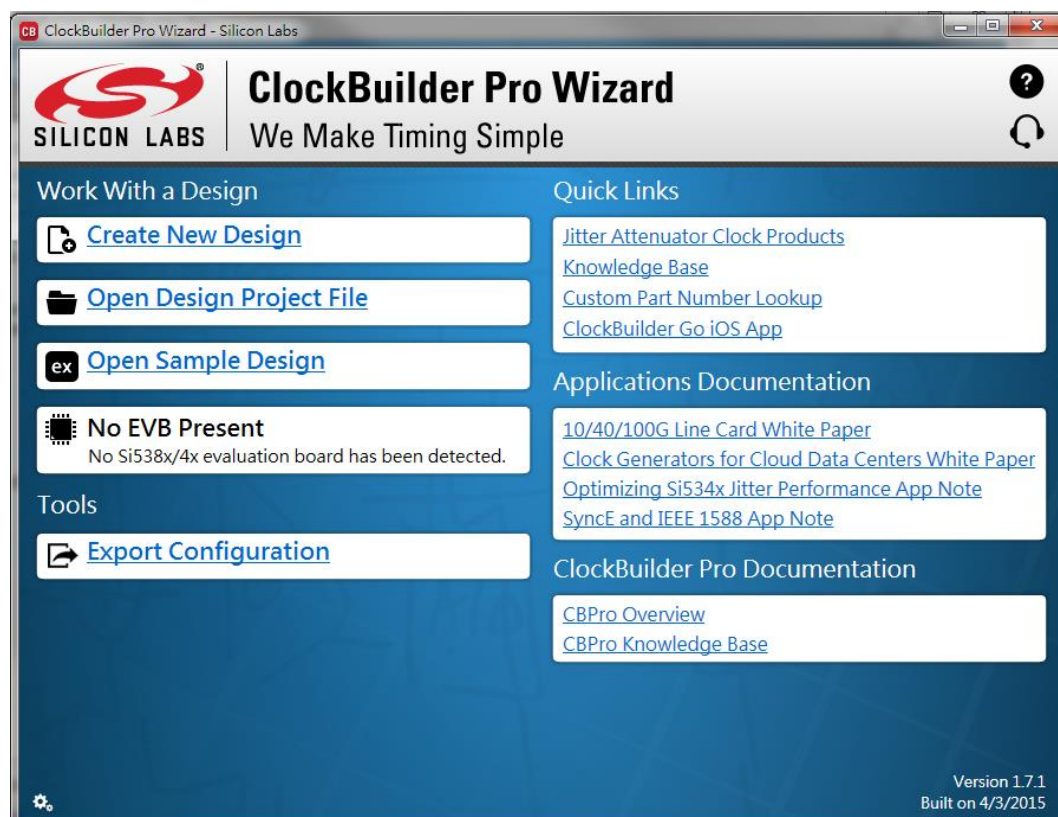

Figure 5-5 ClockBuilder Pro Wizard
1. Firstly, download ClockBuilder Pro Software (See **Figure 5-5**), which is provided by Silicon Labs. This tool can help users to set the Si5340’s output frequency of each channel through the GUI interface, and it will automatically calculate the Register parameters required for each frequency. The tool download link: